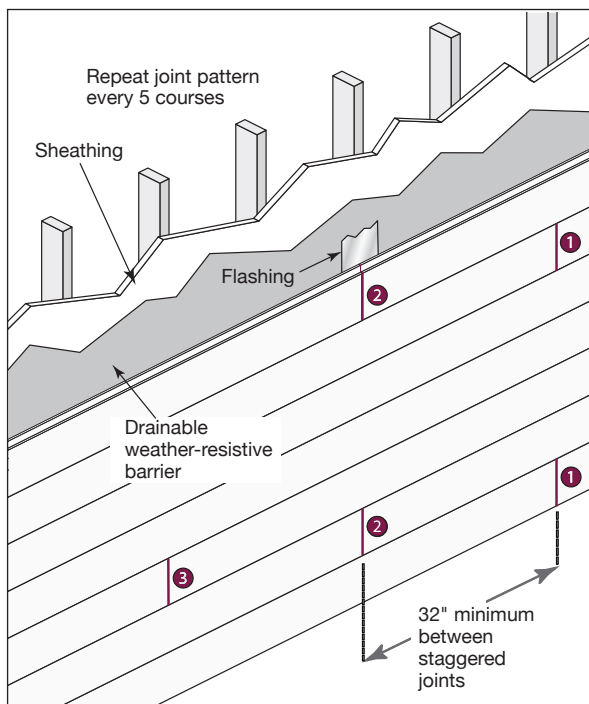

Fig. 20
- For walls longer than 16', stagger joints to create the most aesthetically pleasing design/layout (**Fig. 20**)